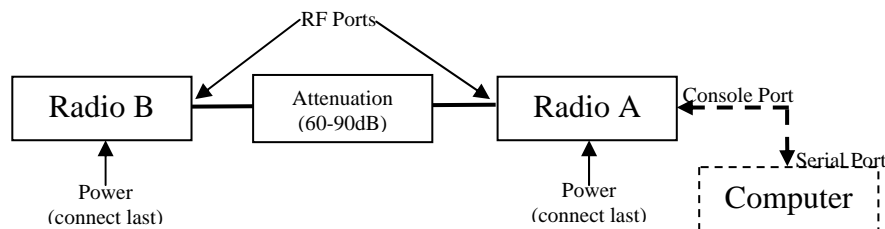

Figure B-1: Basic Back-to-Back Bench Test Configuration
- Connect attenuation and (known-good) RF cable(s) between radio pair, as shown in Figure B-1.
Connect the system as in figure B-1, using the combination of fixed and variable attenuation in between the radio's RF ports. Connect the voltmeter to either radio's RSL test point and the associated reference ground connection.